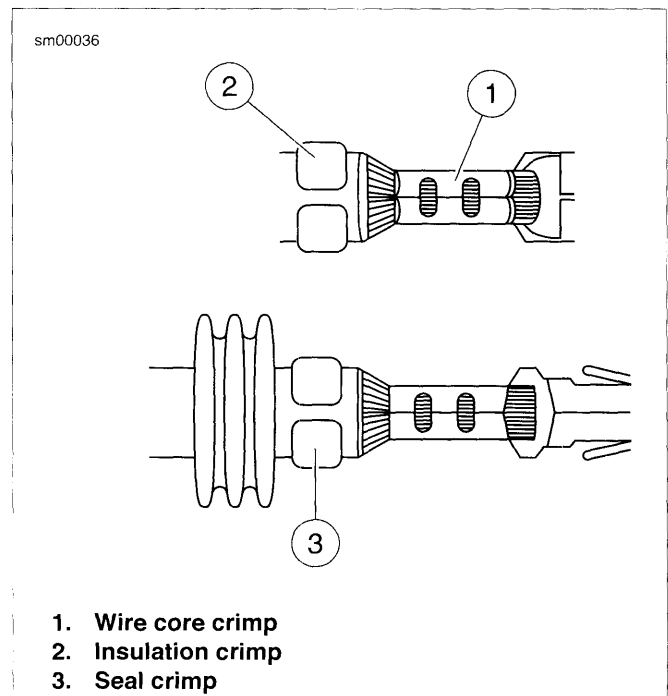

Figure A-41. Metri-Pack Connector: Inspect Core and Insulation/Seal Crimps
1. See Figure A-41. Identify the correct die for the insulation/seal crimp (2).
1. See Figure A-41. Inspect the wire core crimp (1). The tails should be folded in on the wire core without any distortion or excess wire strands.
2. Inspect the insulation (2) or seal (3) crimp. The tails of the terminal should be wrapped around the insulation without distortion.